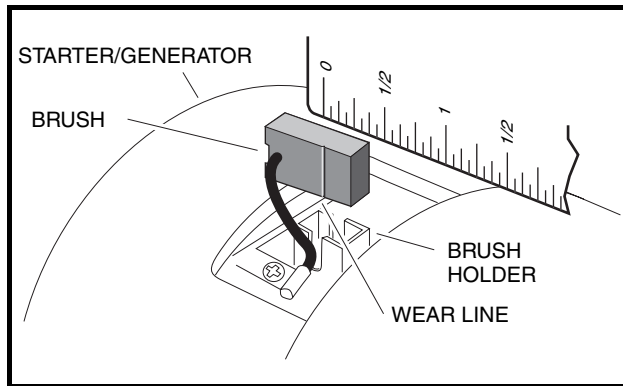

Figure 12-4 Inspect Brushes
2. Check the wear line on the side of the brush. If the end of the brush is within 1/16-inch (1.6 mm) of the wear line, replace all four brushes (**Figure 12-4, Page 12-3**).